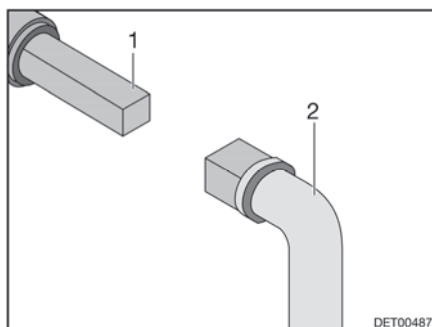

Fig. 97 Operation of the waste water tap
- Place key (Fig. 97,2) onto the square bolt (Fig. 97,1).